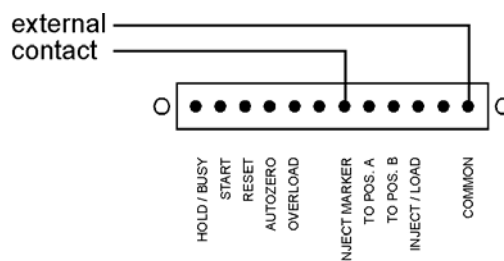

Fig. 12. External contact to start the integrator by switching the electric valve.
1. Connect the hardware trigger of the integrator to the 'Inject marker' on the rear panel of the DECADE as indicated in (Fig. 12).